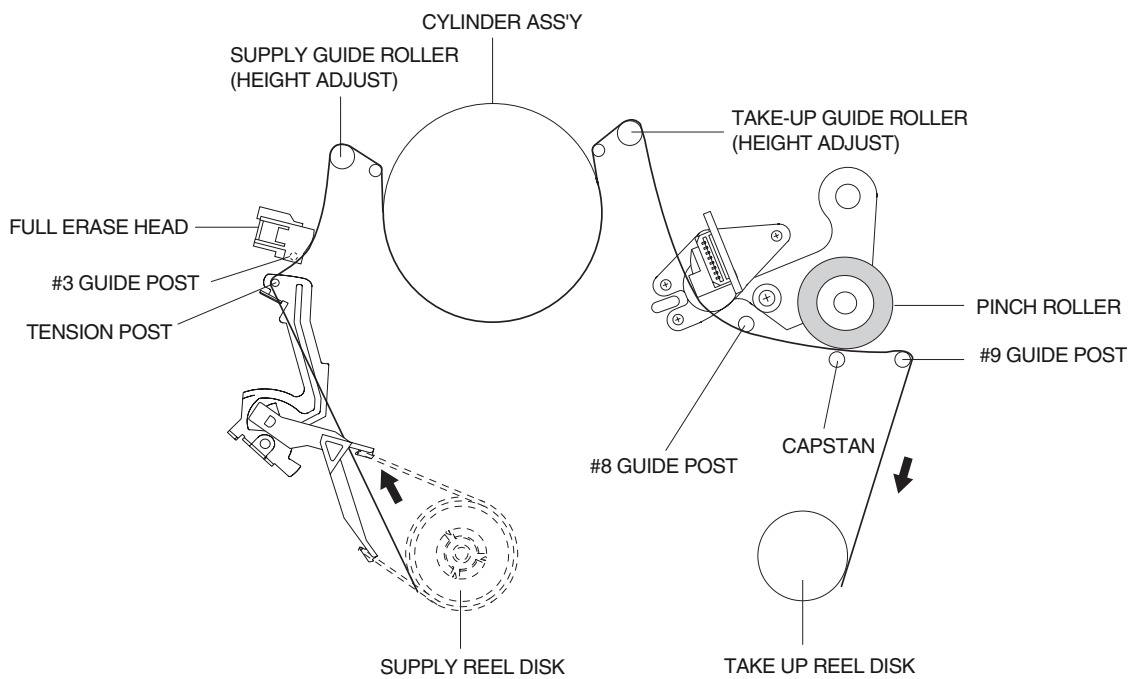
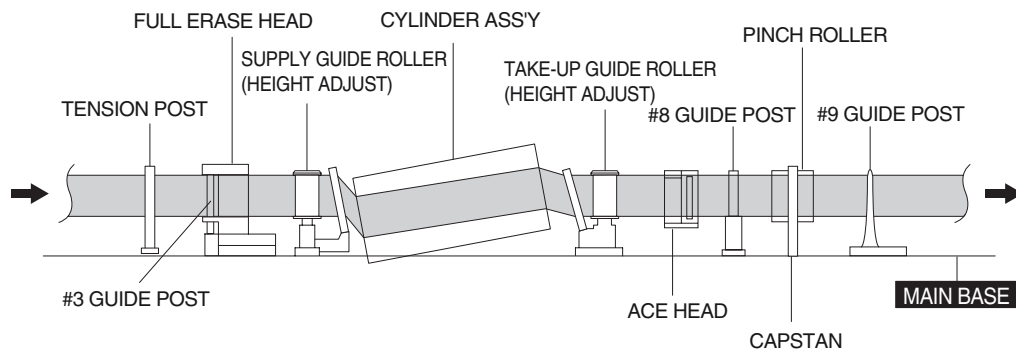

Fig. 5-3-1 Locations of Tape Transport Components
Fig. 5-3-2 Tape Running
- If tape wrinkle is observed at the supply and take-up guide rollers, turn the supply and take-up guide rollers until wrinkle disappears. (See Fig. 5-3-1 and Fig. 5-3-2)
(1) ACE Head Assembly Adjustment
If there is a gap, turn the supply guide roller height adjustment screw until this gap is eliminated. (See Fig. 5-3-1 and Fig. 5-3-2)